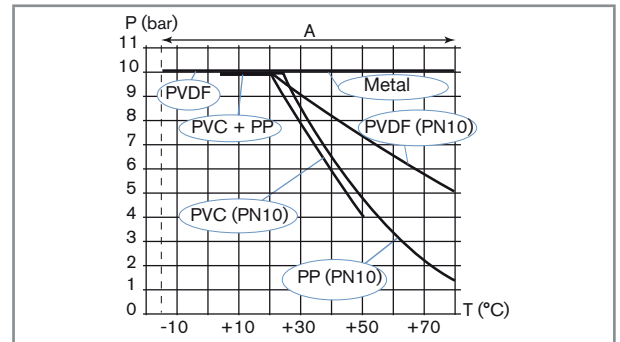

Fig. 1: Fluid temperature-pressure dependency curves
Fluid temperature	The fluid temperature may be restricted by the fluid pressure: Refer to the fluid temperature-pressure dependency curves for the device. See Fig. 1.
- ▶ Take account of fluid temperature-pressure dependency according to the nature of the materials the fitting is made of (see Fig. 1).